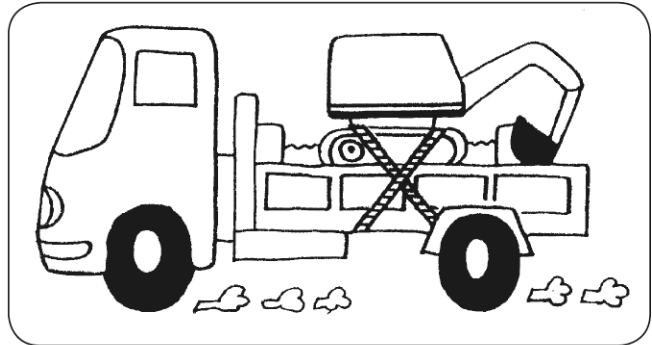

Figure 69
7. Block the crawlers and tie down the excavator. (See **Figure 69**)